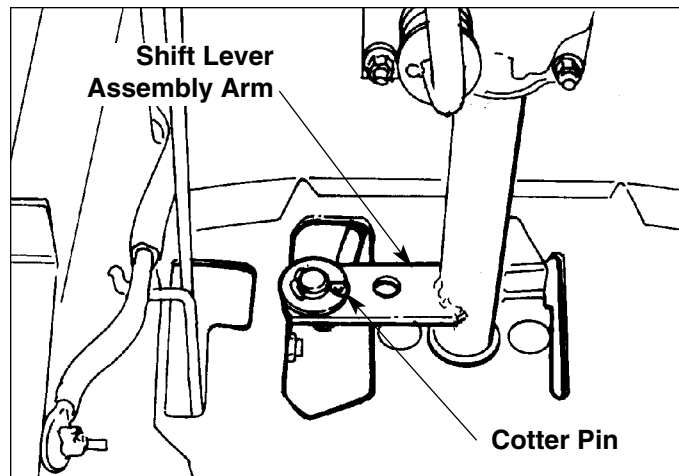

Figure B-16. Front Shift Lever Rod/Shift Lever Assembly Attachment (Broadmoor Model Shown)
1. Remove battery from unit to provide access to front shift lever rod assembly at base of shift lever assembly (Figure B-16)